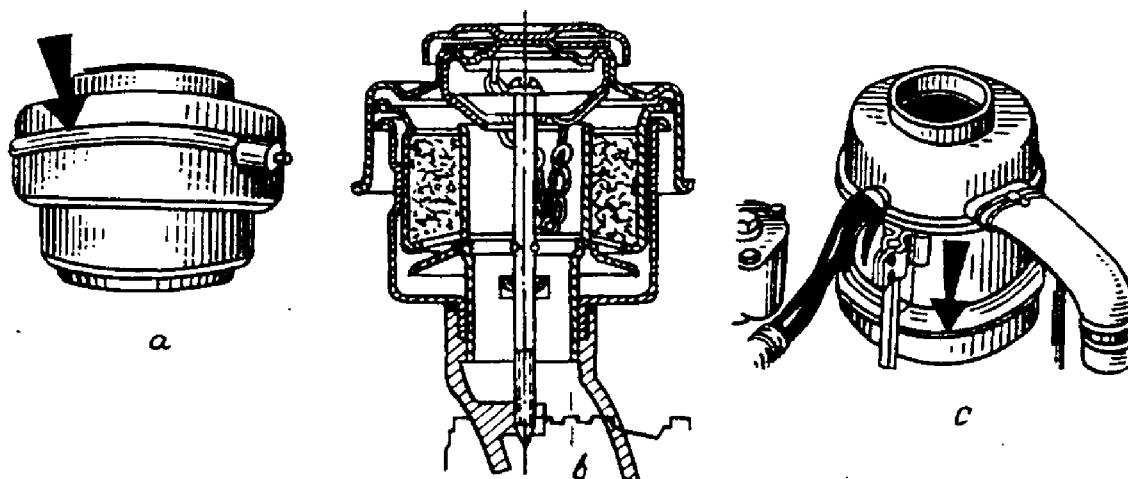

FIG.20. LUBRICATING POINTS FOR AC-8 OR AC3B-10 OIL
50. Remove, wash and fill the engine air cleaners with fresh oil (Fig.20), following Process Chart No.1. The same is done to the filter of the oil filling neck.